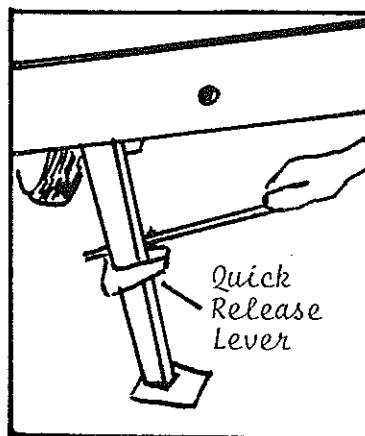

FIGURE 7
14. Remove the stabilizer handle from the stowage area. Using the stabilizer jack handle, extend the inner legs of the stabilizer jacks to stabilize the trailer, making sure the handle is inserted through the rear hole. Remove jack handle and stow. See Figure 7.